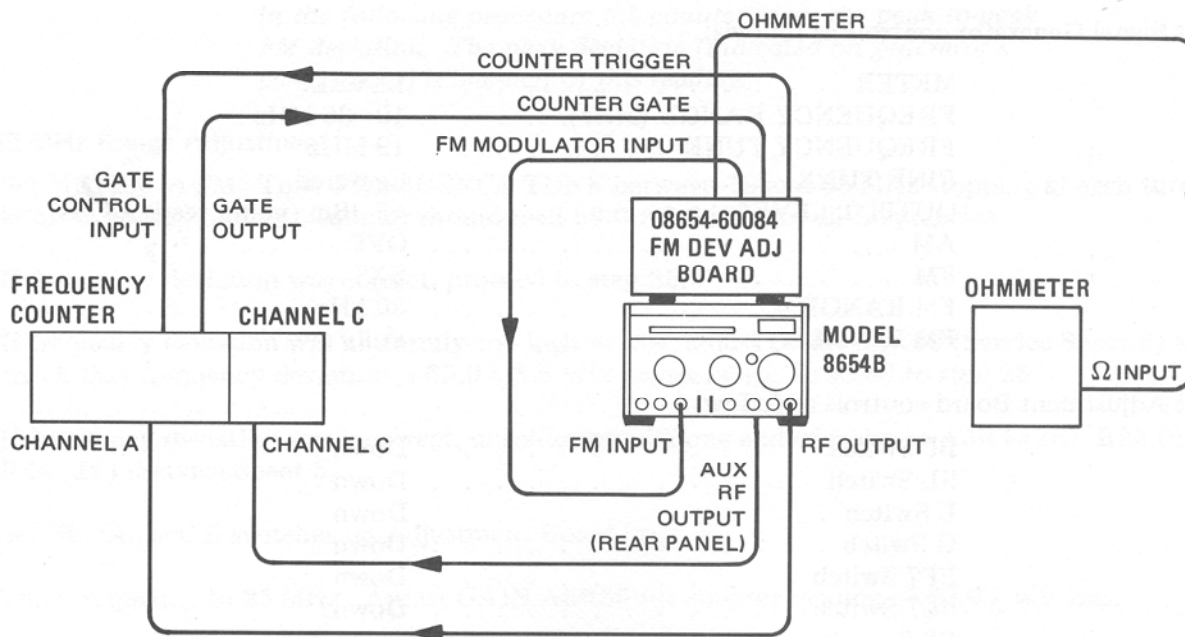

Figure 5-7. FM Deviation Adjustment Setup
3. Interconnect instruments as shown in Figure 5-7.